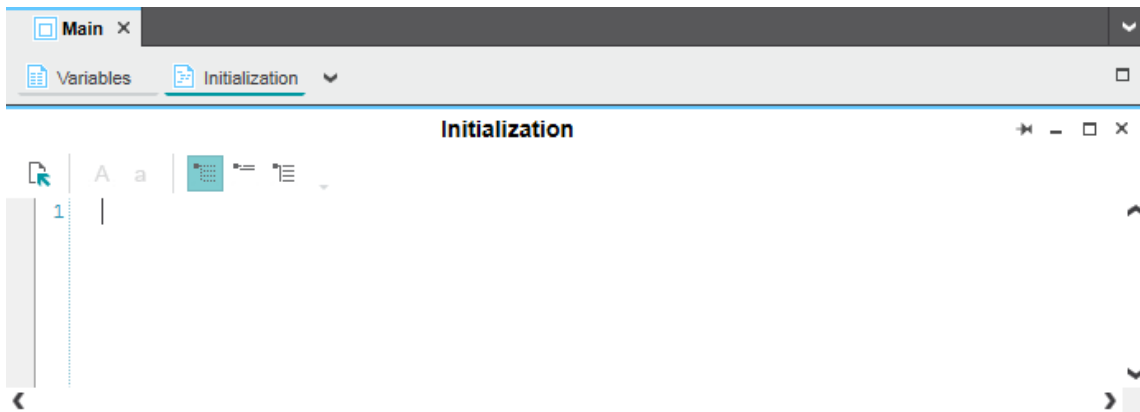

Figure 14 New designation of the “Code” editor
- Enter a unique and meaningful designation for the editor (in the example in Figure 14: “Initialization”).